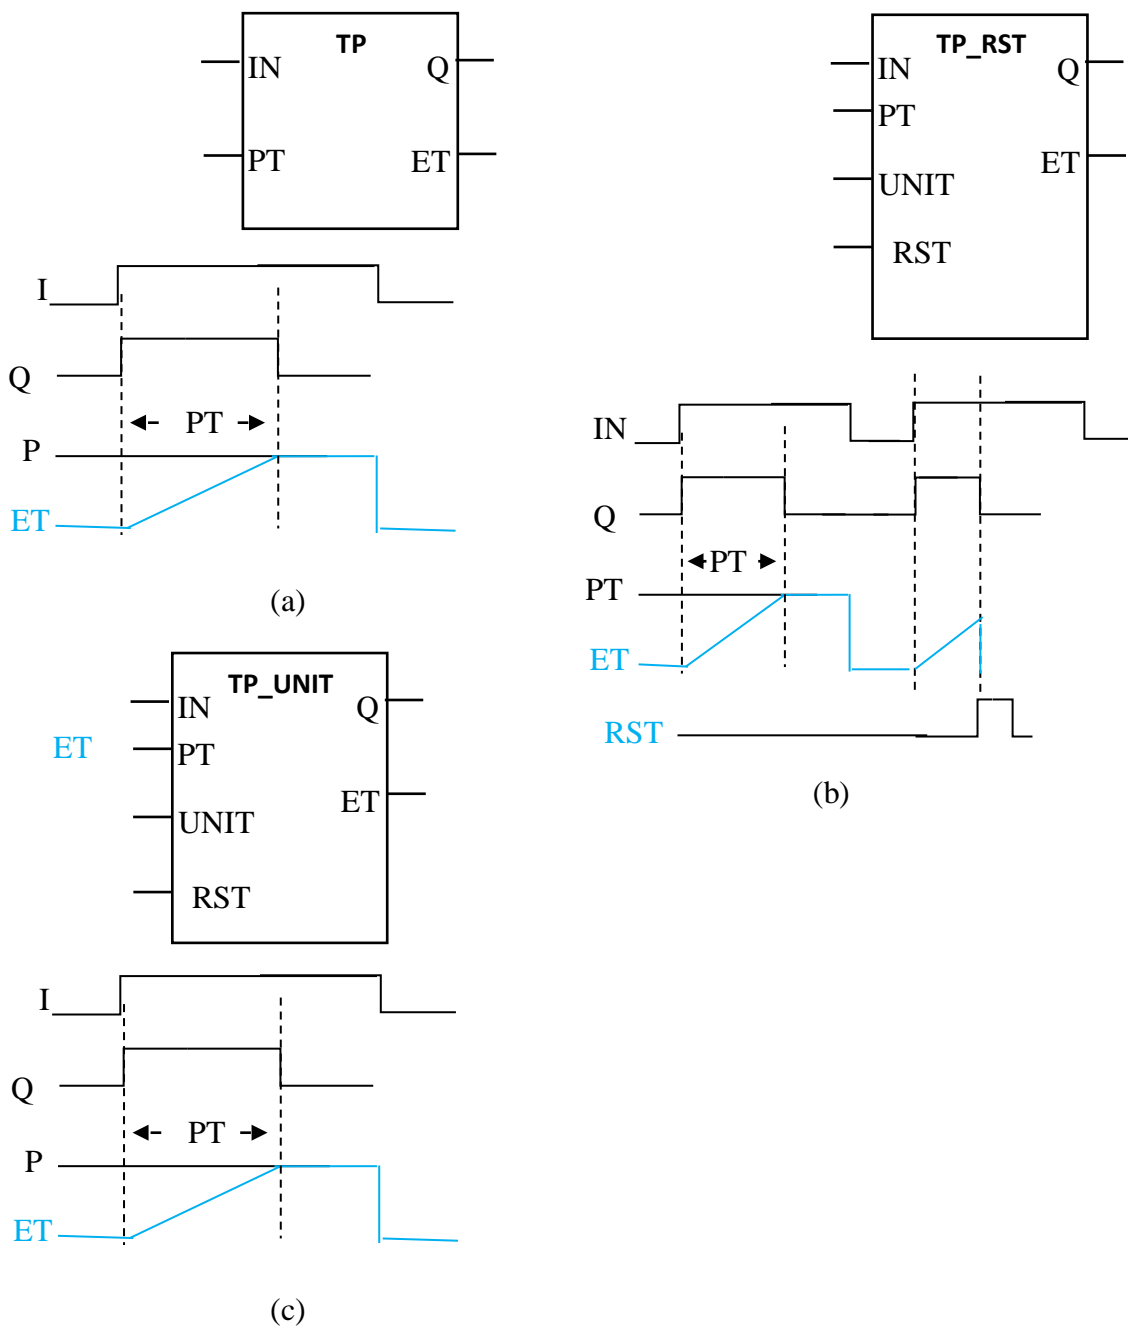

Figure 6: OFF delay timers a): OF timer b): OF with reset c) OF timer with integer setting.
Pulse timers are used to produce fixed duration output after being excited by their left side rung positive transition. On the positive transition of IN, these timers instantaneously close their normally open contacts and remain so till the elapsed time reaches the preset time, the moment the contacts return to their state. Negative transition of RST resets the elapsed time output (ET) and allow for new cycle. Any toggling for IN in the period from the positive transition to the preset time is neglected. These timers instructions are classified into direct time setting timers (TP without rest facility and TP_RST with reset facility) and indirect or integer time setting (TP_UNIT). Figure 6 displays the ladder symbols of these timers and also their timing diagram.